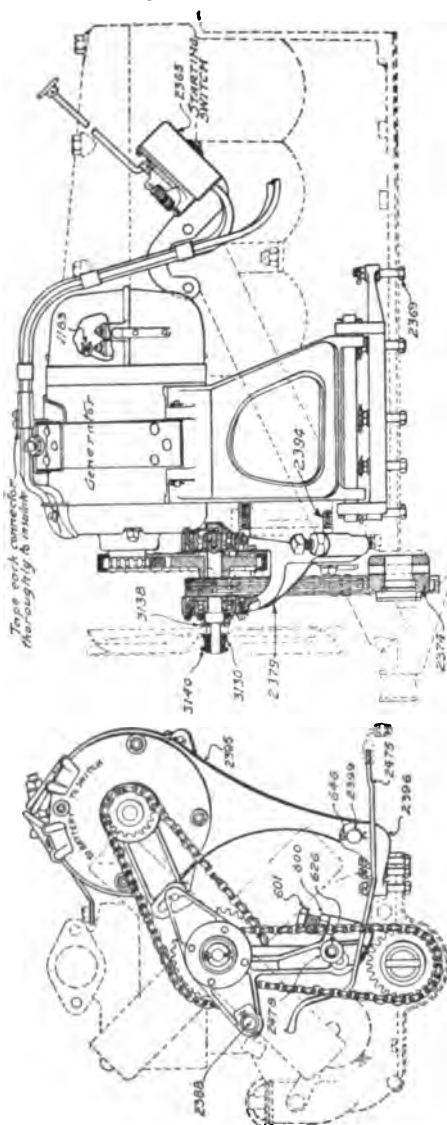
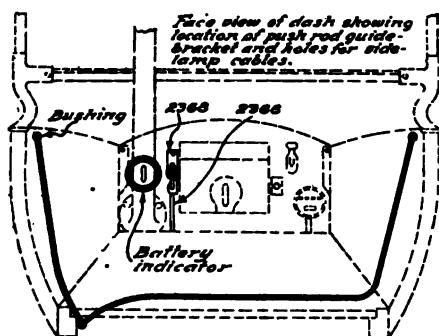

Fig. 406. Front and Side Elevations of North East Ford Installation
Fig. 409. Details of Dash Wiring for North East System
**Preparing Engine.** While a single unit of the chain-driven type, this differs from the others of this type already described only in the details of the chain drive. Remove the radiator and the water connections, the fan, the fan bracket, the screw for adjusting the fan, the fan pulley on the crankshaft, the starting crank, the timer rod for the advancing and the retarding ignition timing, one bolt holding the gear-case cover to make place for the stud 2394, and five bolts on the lower flange of engine base to make place for the bolts 2369, Fig. 406. Before removing the timer rod, carefully mark the timer housing and place a corresponding mark on the timing-gear case in order that the ignition timing of the motor may not be altered when the new timer rod, provided with the North East equipment, is installed.
**Mounting Starter.** The numbers for the various parts given in the following instructions for installing the unit, all refer to the illustration, Fig. 406.
Mount the horizontal chain by threading downward over the large sprocket on the countershaft (upper shaft), then around the motor-generator sprocket, and make the connection by inserting the master link from the rear. Then mount and connect the vertical chain in a similar manner. Make sure that the connecting links are properly locked after the loose side plates are in place. Adjust the vertical chain to a moderate tension by relieving the nut on the clamp stud 2394 and screwing down the adjusting screw 601, Fig. 406. After adjustment has been made, be sure to lock the adjusting screw by means of the jam nut and screw down the nut on the clamp stud which has been previously relieved.
To adjust the horizontal chain, release the clasp nut 626 and turn the generator toward the engine. This will take up the slack in the chain. Cut off the fan pulley with a hack saw so that the hub on the fan will be  $\frac{3}{8}$  inch long, as shown in Fig. 406. Make certain that the one fiber washer 3138 is first placed on the shaft, then the fan, then another fiber washer 3138, then the two steel washers 3130 with the spring 3140 between them. Pressure should be applied to compress the spring until the cotter pin 646 can be dropped through the hole in the end of the shaft. This is important, as it forms a friction
Replace the radiator, taking care not to omit the gaskets and the leather radiator seats, and, at the same time, mount the starting switch 2365, Fig. 406, by the bolts holding the flange of the return-water tube to the engine. After completing this, fill the radiator. Also mount the guide bracket 2368 for the starting button 2366, as shown in Fig. 409. Connect the switch wires to the motor generator, as shown in Figs. 406 and 407. Replace the floor boards, after notching them so as to clear the conduit running from the lighting switch downward. Carefully connect the battery wires to the two wires coming from the general circuit. Connect one lead at a time and carefully wrap the connector with tape before making another connection. Be sure to use plenty of insulating tape over these connections so that they will be well protected. After the connections
**Operating Instructions.** After the car has been run a few hundred miles, inspect the driving chains and, if necessary, adjust to take up any slack. This should be done at intervals until all stretch has been taken out of the chain. Inspect the chains carefully from time to time to see that nothing has disturbed their alignment. The chains should be kept clean by washing with gasoline every few weeks and applying a new supply of graphite grease to their inside faces. To adjust the vertical chain, release the nut on the clamp stud 2394 and screw down the adjusting screw 601, Fig. 406. Be sure to lock this
If it should be necessary to run the generator with the battery disconnected from the system, *remove the small 10-ampere fuse 1183, Fig. 406, located over the brushes inside the detachable hood at the rear end of the generator, but be sure to replace this fuse when the battery is again connected.* If at any time the generator is not charging the battery properly, although the system tests out in good condition throughout, it is evident that the fuse 1183 has been blown and should be replaced by a new one of the same capacity. The purpose of this fuse is to protect the generator from injury. The bearings of the generator, when assembled by the manufacturer, are packed with a special lubricating compound, so that no provision is made for oiling them.